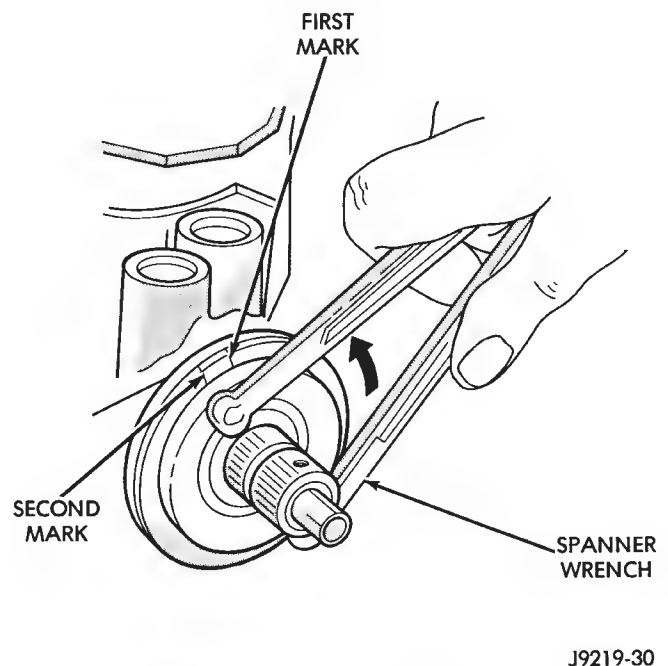

Fig. 11 Aligning To The Second Mark
- (5) Rotate adjustment cap back (counterclockwise) with spanner wrench until hole is aligned with the second mark (Fig. 11).